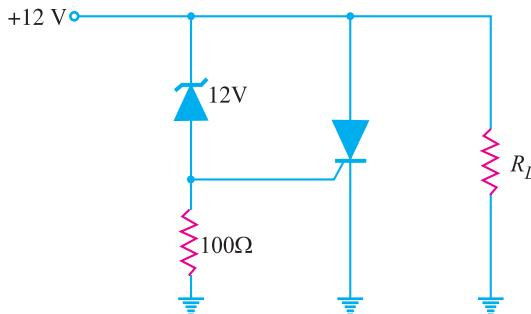

Fig. 20.27
**Example. 20.14.** The zener diode of Fig. 20.27 has a tolerance of  $\pm 10\%$  and the trigger voltage can be as high as 1.5V. What is the maximum supply voltage where crowbarring takes place?